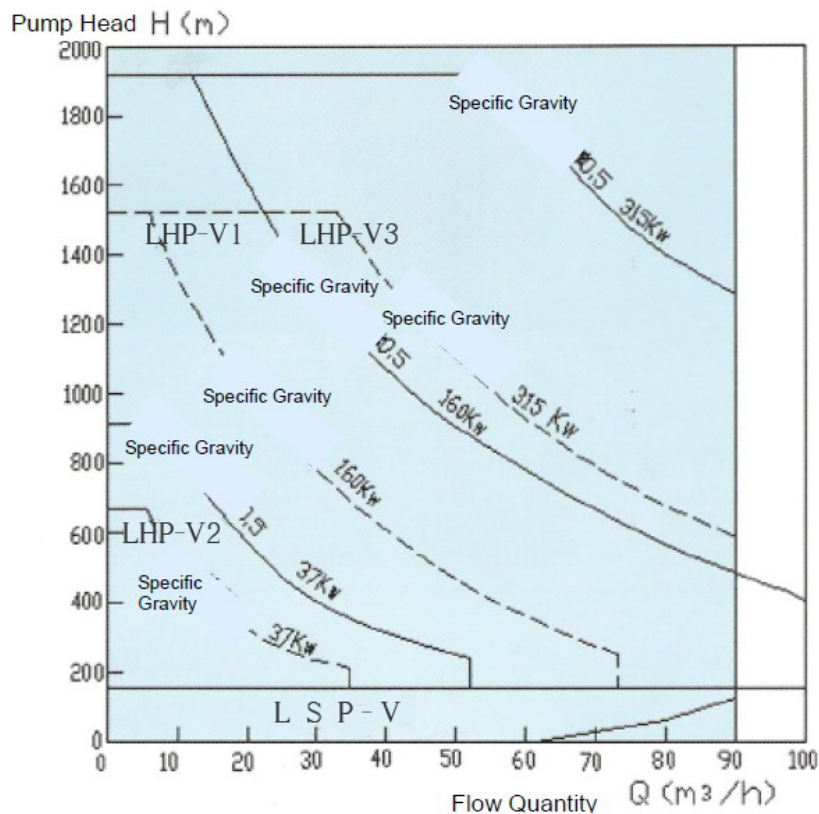

Fig.6 Spectrum of LHP-V Type Vertical High-Speed Pump
3.1 The following Fig. 6 shows the performance parameter spectrum of LHP-V type vertical high-speed pump:
1) The technological parameters being satisfied, the selection of pump type is mainly restricted by maximum permissible power. See also Fig. 6.